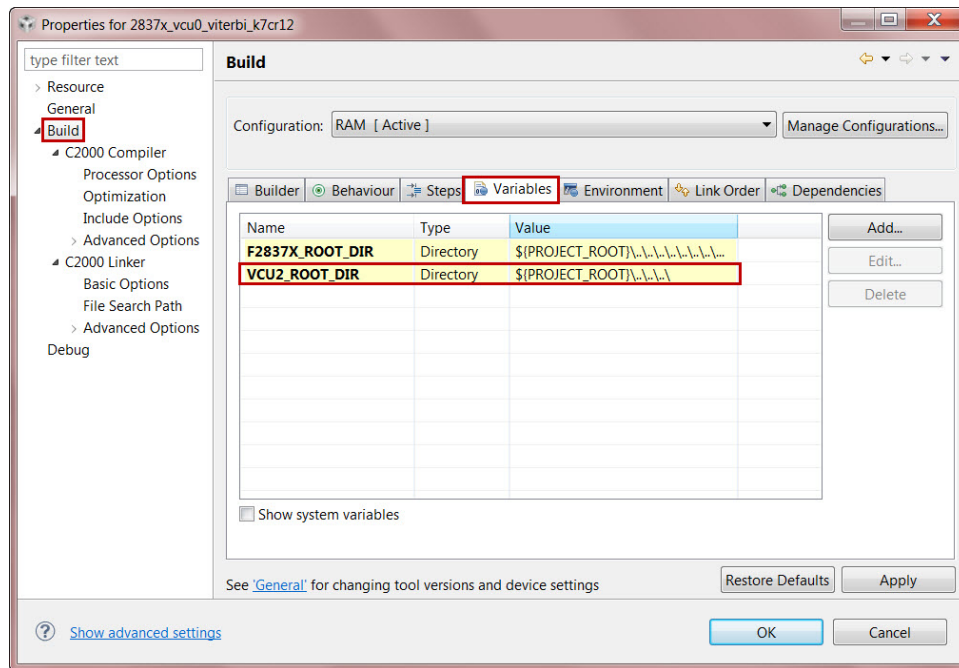

Figure 4.3: Creating a new build variable
1. Go to the **Project Properties->Build->Variables(Tab)** and add a new variable (see Fig. 4.3), **VCU2_ROOT_DIR**, and point it to the root directory of the VCU library in **C2000Ware**.